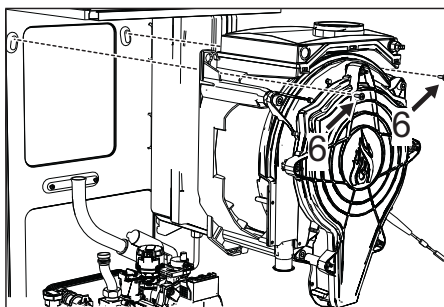

fig. 64
- Remove the 2 **top** screws "6" securing the exchanger to the frame (fig. 64)